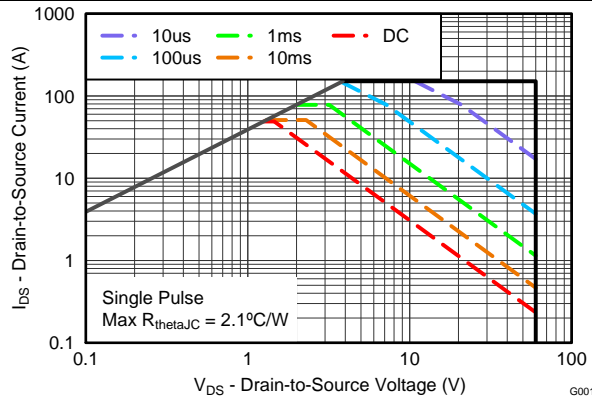

Figure 10. Maximum Safe Operating Area
• Updated <a href="#">Figure 10</a> to show an improved SOA .....	5